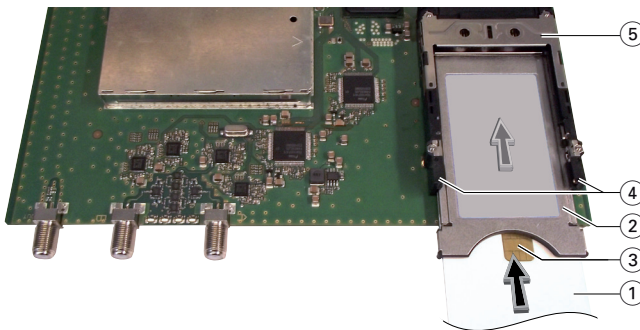

Fig. 1
- Insert the smart card (1) into the CA module (2) so that the chip (3) on the smart card faces the thicker side (top) of the CA module (fig. 1).
- Push the CA module (2) without canting into the guide rails (4) of the common interface (5) according to the following picture and contact it to the common interface.